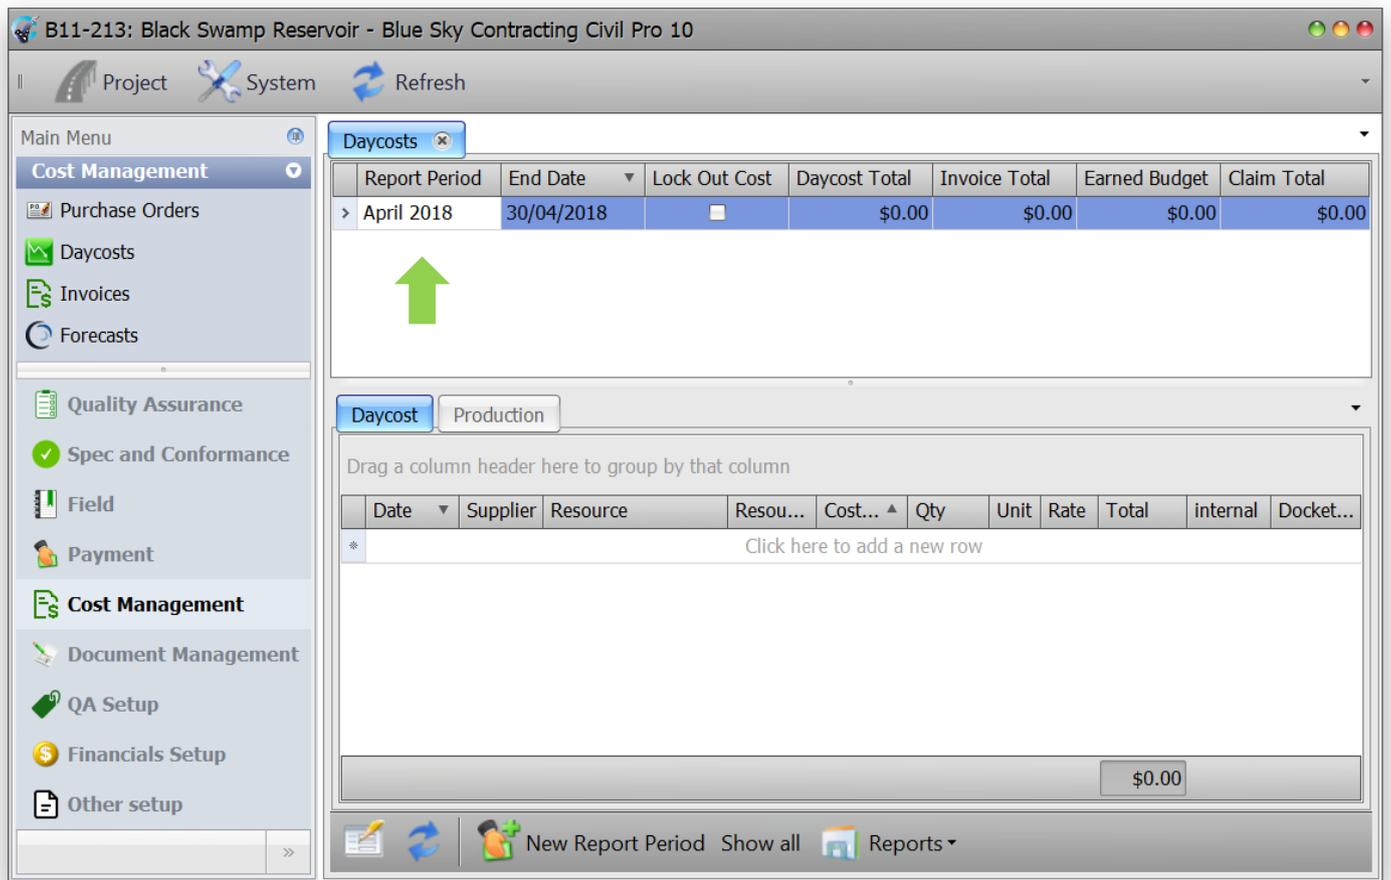

Figure 60 New report period created and appearing in Daycosts register
4. You will be brought back to the Day Cost Register which will now show April 2018 in the top part of the screen (Figure 60)